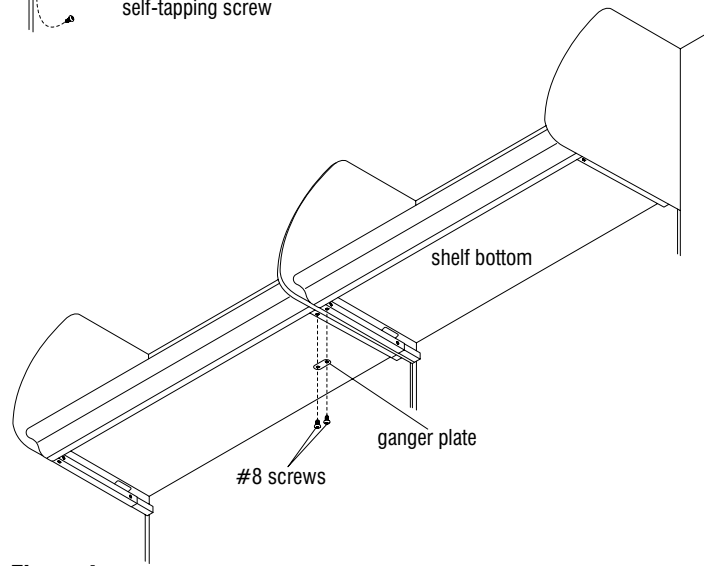

Figure 4
5. When two or more shelves are installed next to each other, fasten them together with a ganger plate. Secure ganger plate to the shelf bottoms with two #8 screws (Figure 4).